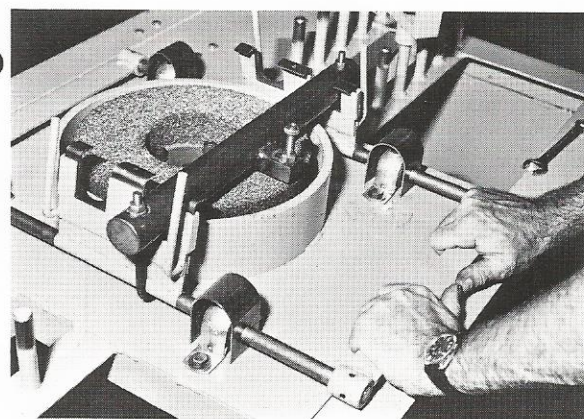

fig. 22
- a. Mount wheel dresser on tool cradles No. 4 (see fig. 22). Make sure the holder hooks are tight. However, do not over-torque; you may bend the transport shaft or the tool cradle.
- f. Move the dressing tool back and forth across the rotating surface of the grinding wheel by pushing the transport shaft with your hands. Begin from the outside. (See fig. 22)